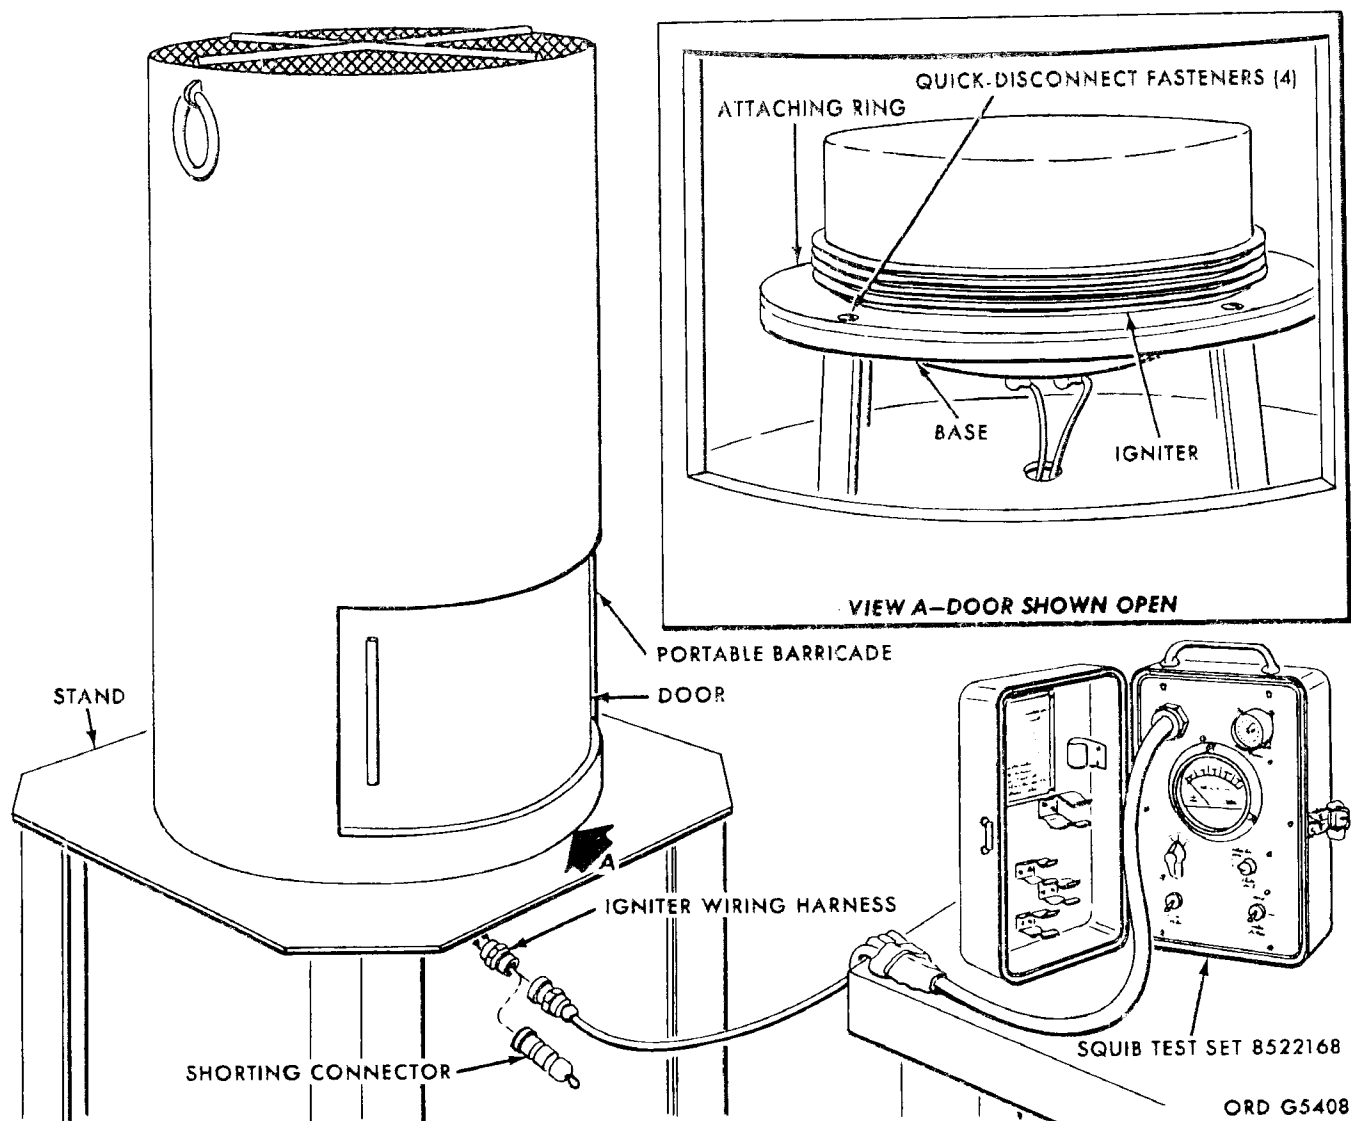

Figure 10-8. Test of the rocket motor igniter.
d. Perform the continuity check of the igniters (view A, fig. 10-8), using squib test set 8522168 and a portable barricade in a suitable area as prescribed below.